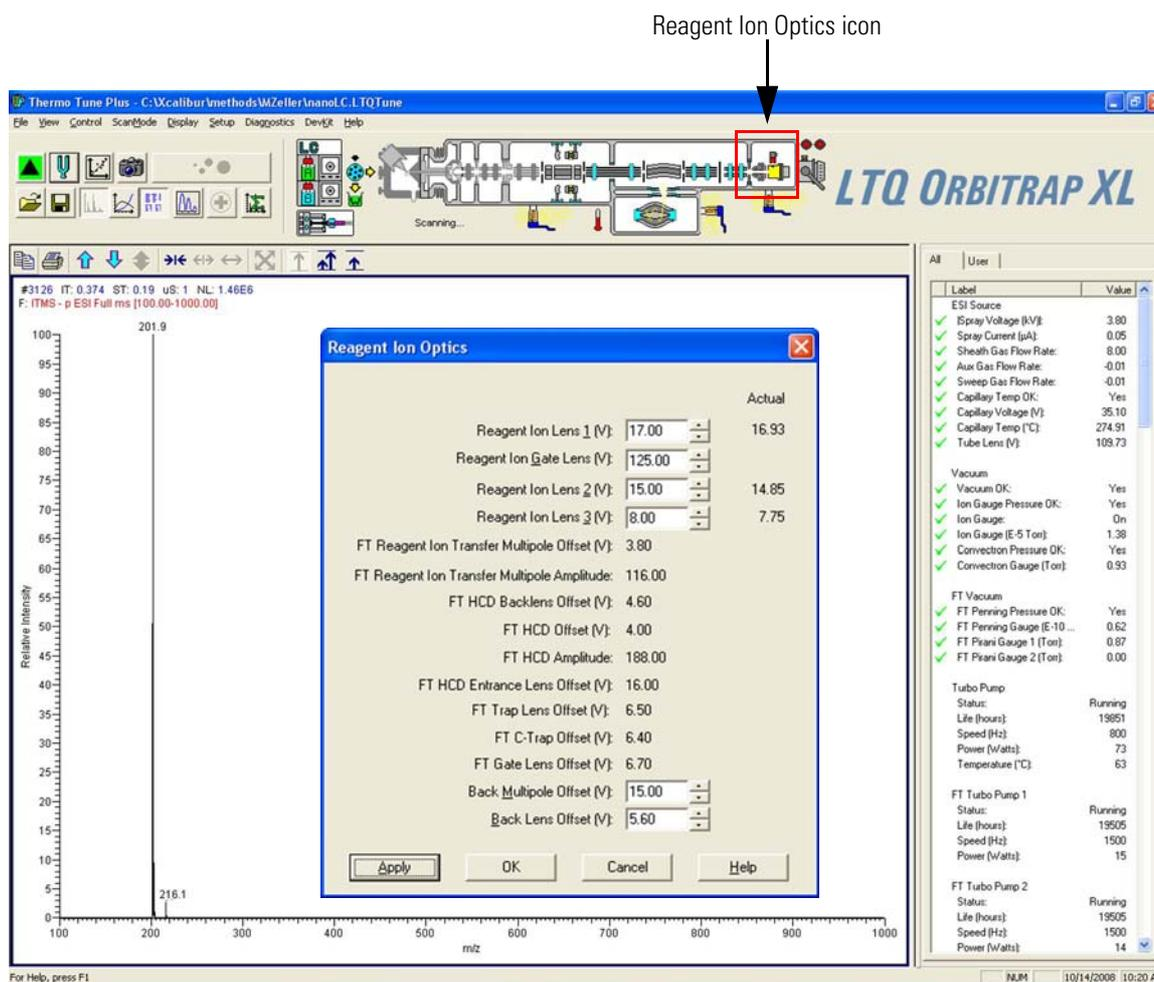

Figure 8-13. Tune Plus window with Reagent Ion Optics dialog box
4. Click the Reagent Ion Optics icon at the top of the Tune Plus window. (See icon in margin and Figure 8-13.) The Reagent Ion Optics dialog box appears.